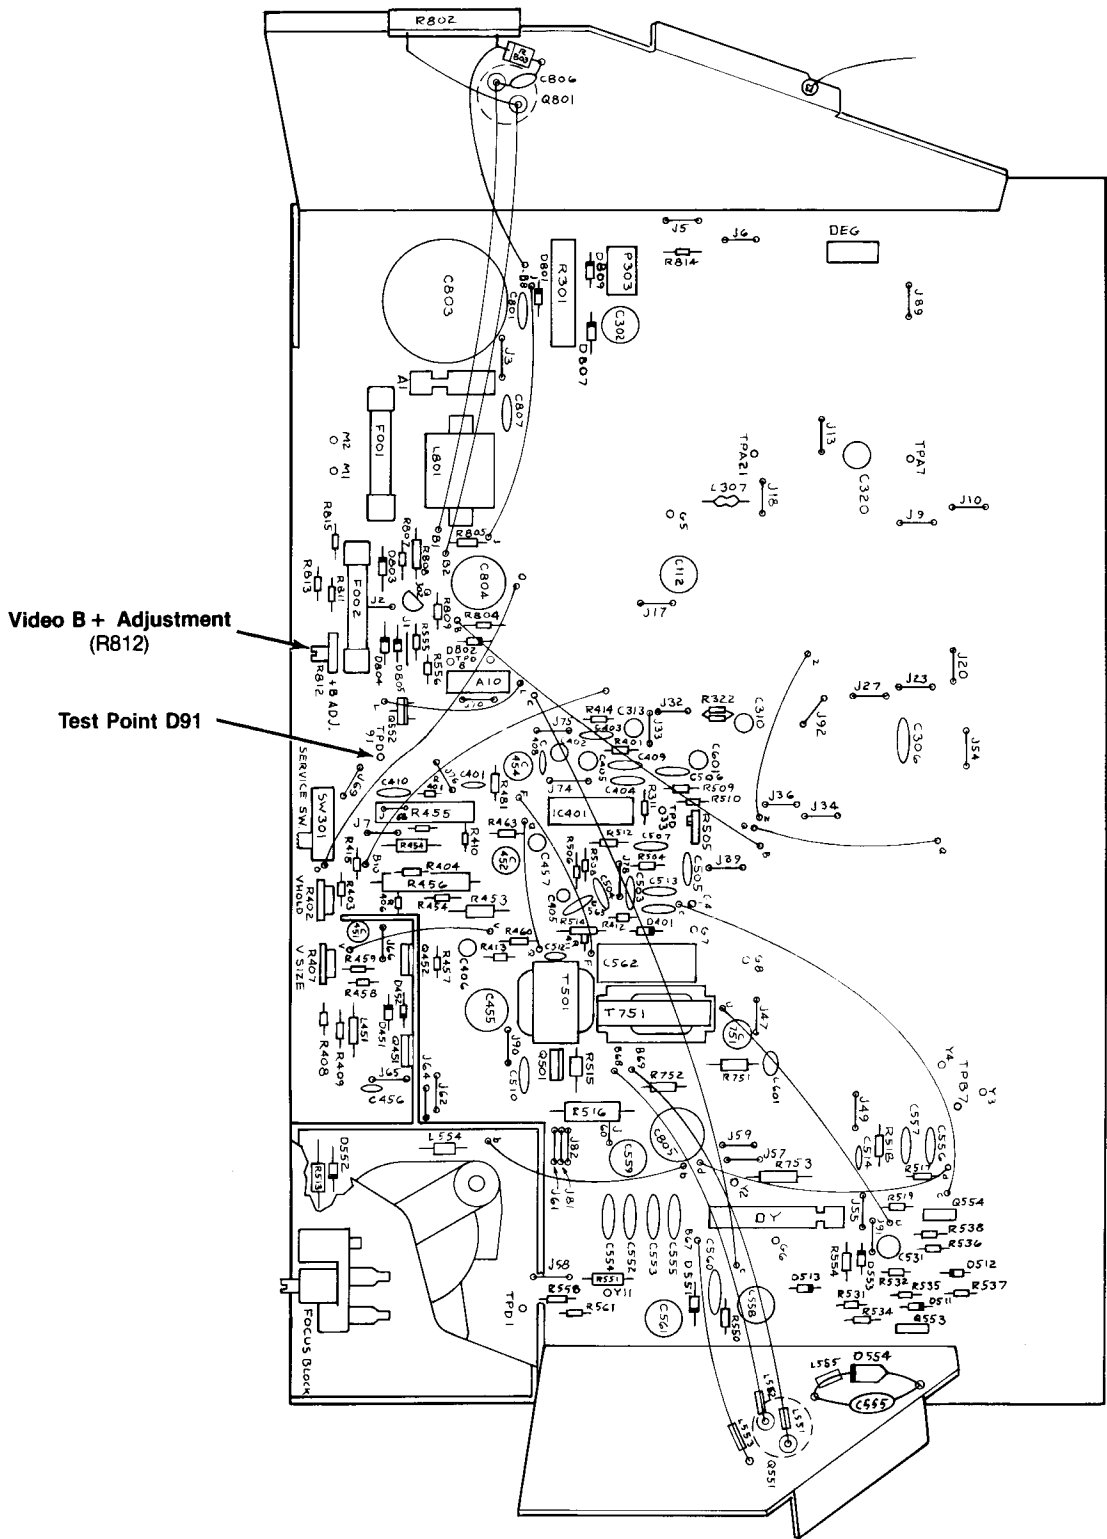

Figure 17 Locations of Video B+ Adjustment R812 and Test Point D91
4. Connect the plus lead of the voltmeter to test point D91, which is shown in Figure 17.
6. Adjust R812 on the Main PCB, shown in Figure 17, for a voltmeter reading of +123 volts.